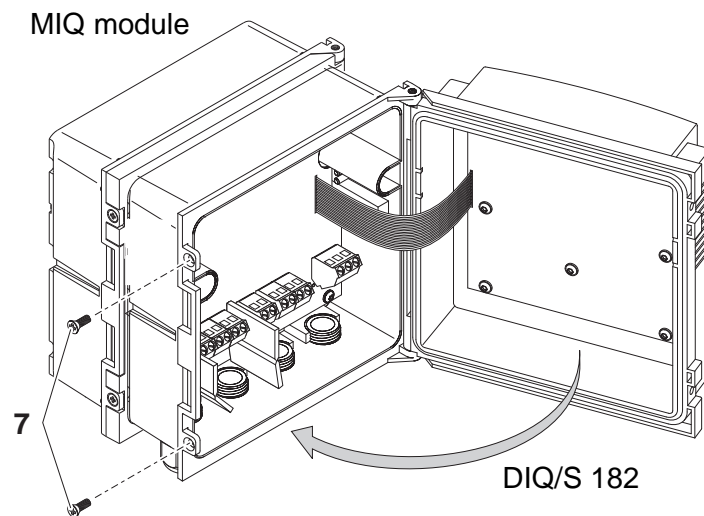

Fig. 3-5 Closing the enclosure (variant 1)
| 8 | Close the lid of the Universal Transmitter and fix it with the two countersunk screws (pos. 7 in Fig. 3-5). |